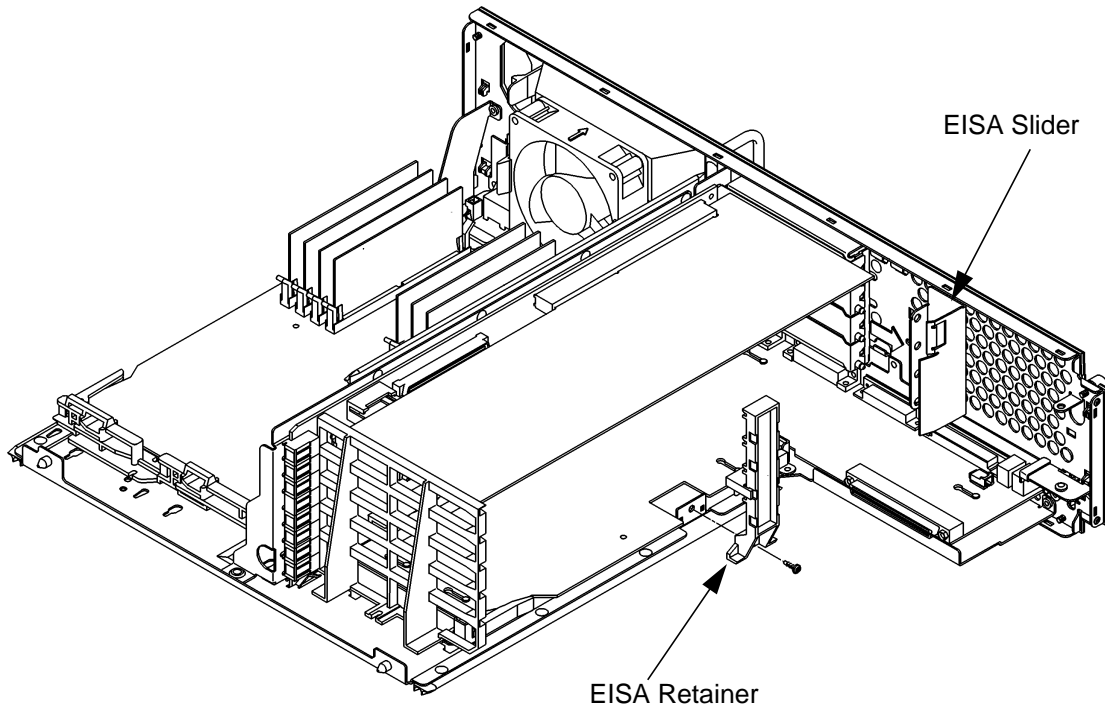

Figure 43 **Removing the EISA Slider and Retainer**
- 2 Slide the EISA slider to the side to remove it, as shown in Figure 43.
- 3 Remove the screw from the EISA retainer and remove it, as shown in Figure 43.